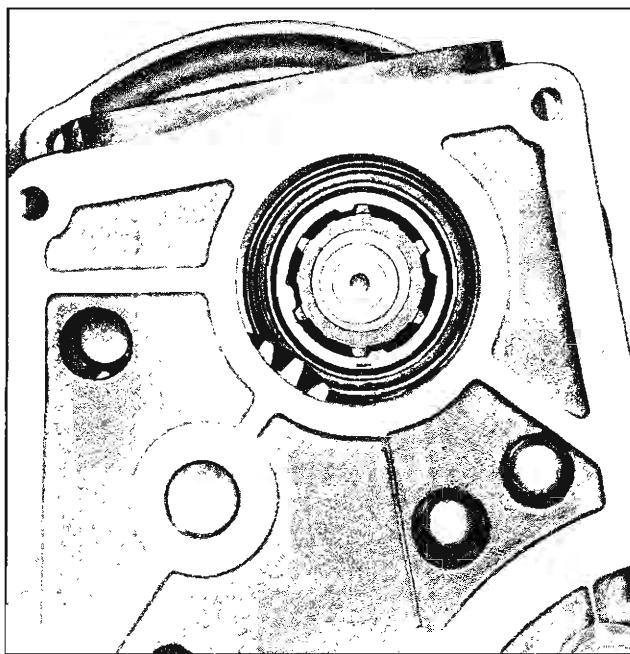

Fig. 7-20 Synchronizer Tangs Aligned with Mainshaft Splines
- CAUTION: Be sure synchronizer ring tangs are lined with the mainshaft splines (Fig. 7-20) prior to driving out shaft, otherwise damage to ring and shaft splines will occur.**